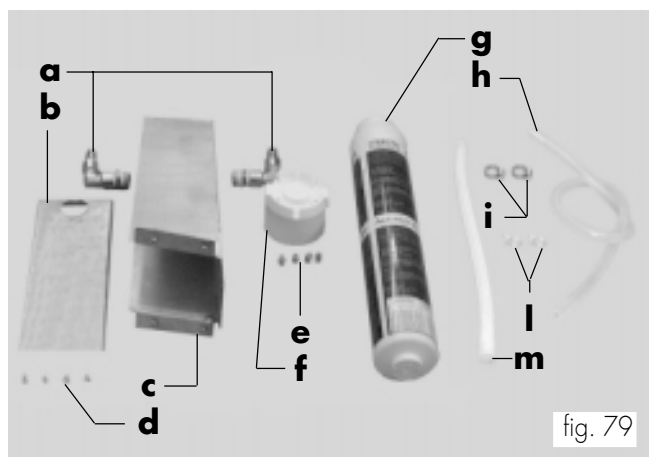
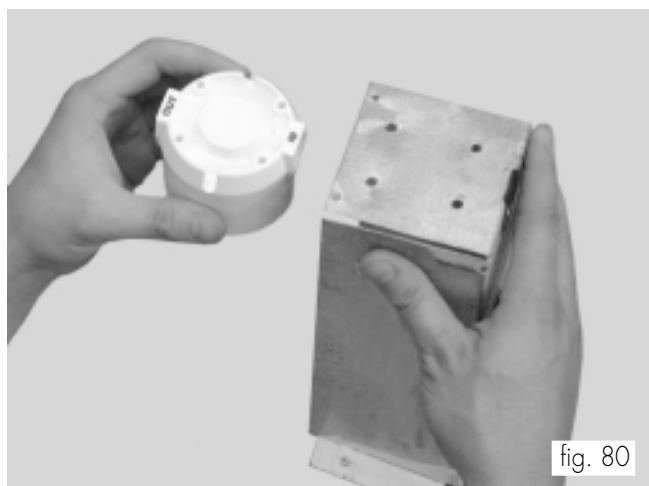
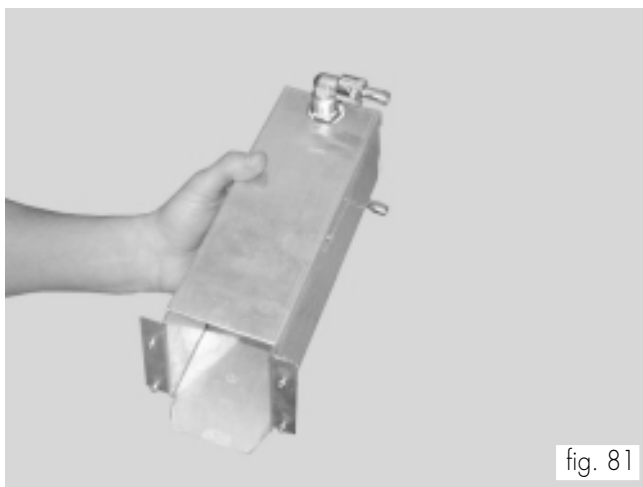
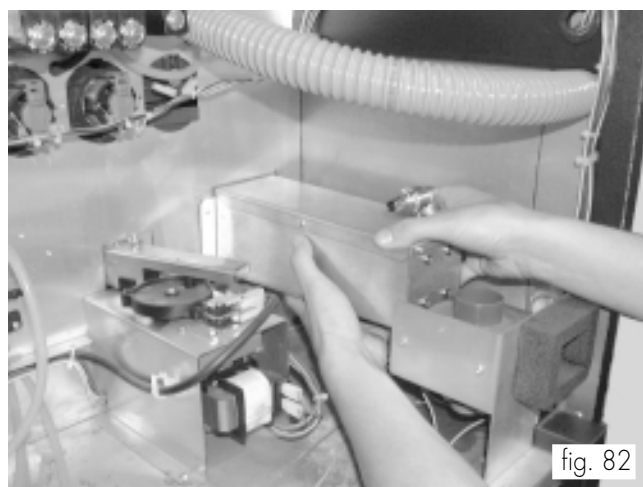

fig. 79
fig. 80
fig. 81
fig. 82
### Assembly kit (fig. 79)
- Insert the head (ref. f, fig. 79) into the support (ref. c, fig. 79) carefully following the required sense (fig. 80). Fasten the head to the support by means of the 4 screws (ref. e, fig. 79).
- Assemble the cover (ref. b, fig. 79) on the support (ref. c, fig. 79) and tighten it by using the 4 screws (ref. d, fig. 79). Then screw the 2 fittings (ref. a, fig. 79) inside the holes following the right orientation, as shown in fig. 81.
- Assemble the cartridge support set (fig. 81) and fasten it by means of the 4 screws (fig. 82 e 83)
Insert the clamp (ref. i, fig. 79) into the pipe (ref. m, fig. 79) and the latter into the pump fitting. Tighten the clamp screw (fig. 84).
Insert the clamp (ref. i, fig. 79) into the pipe (ref. m, fig. 79) and the latter into the water inlet solenoid valve fitting. Tighten the clamp screw (fig. 85).
- Insert the other clamp (ref. i, fig. 79) into the pipe free end (ref. m, fig. 79) and the latter into the lower fitting of the cartridge support set (ref. a, fig. 79). Tighten the clamp screw (fig. 86).
- Insert the spring (ref. i, fig. 79) into the pipe (ref. m, fig. 79) and the latter into the air break fitting (fig. 87).
- Insert the other spring (ref. l, fig. 79) into the pipe free end (ref. h, fig. 79) and the latter (fig. 88) into the upper fitting of the cartridge support set (ref. a, fig. 79).
- Insert the cartridge and tighten it (ref. g, fig. 79) clockwise (fig. 90).